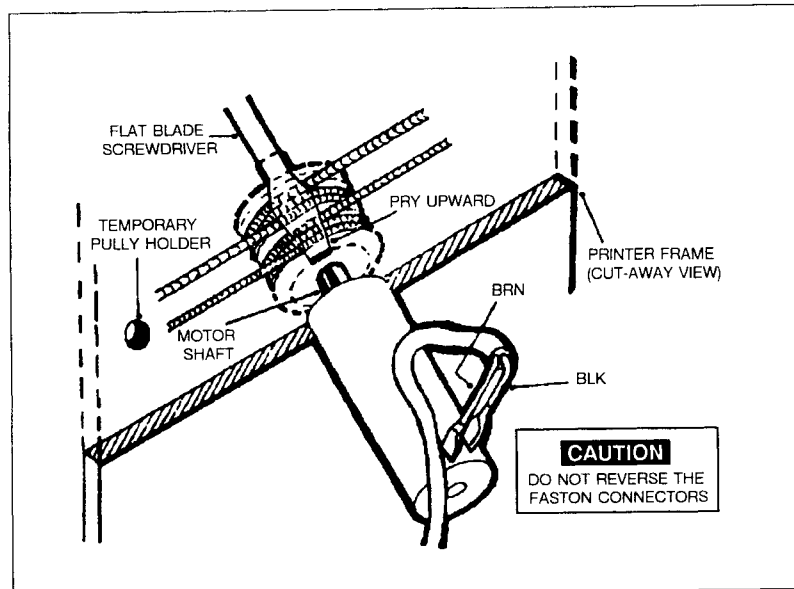

Figure 6-23. Removing Tractor Position Motor
- d. Holding the pulley in the same relative position as it was on the motor, **CAREFULLY** twist it counterclockwise to roll upward along the cables. Roll up until the pulley shaft is aligned with the hole drilled into the casting for use as a temporary holder, and insert the pulley shaft (see Figure 6-23).
Before removing the wire leads to the motor, be sure to note their positions (see Figure 6-23). These leads must not be reversed, as this would cause the motor to run backwards.